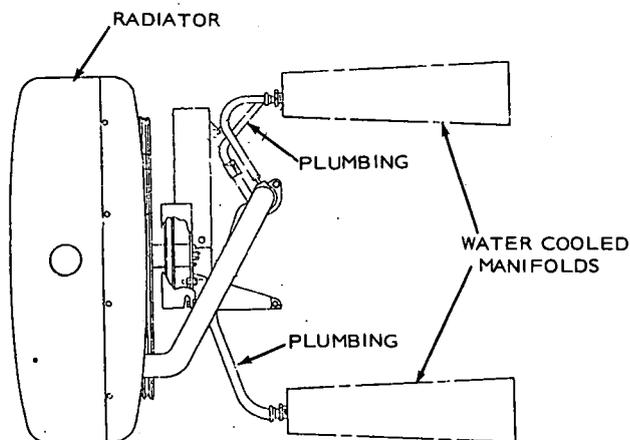

FIGURE 10. WATER COOLED MANIFOLDS
**CAUTION** Severe damage will occur to water cooled manifolds if size or routing of water pipe is deviated from that of factory installation. This has been designed to allow maximum cooling of manifolds (see Figure 10).